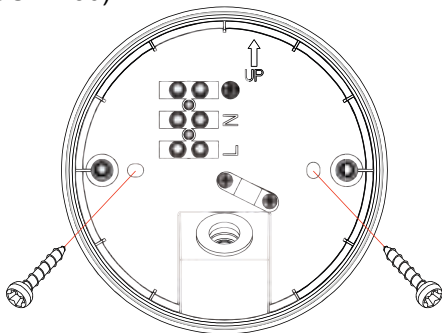

FIGURE 50
(5) Fix the wall box to the pre-determined mounting location by making use of the two screws provided. (FIGURE 50)